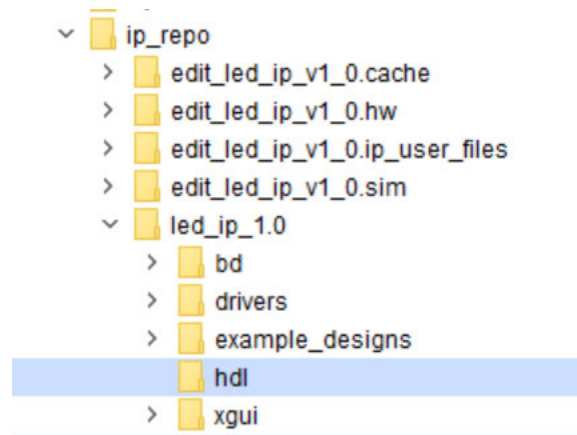

Figure 9: Path to save the *user_logic* source file
18. Now that the lower-level module has been instantiated, the module itself needs to be created. In the flow navigator, click **Add Sources** and select **Add or create design sources** and click **Next**. Click **Create File** and name the file *user_logic* using the file directory where you have your IP saved (see Figure 9 for the path).